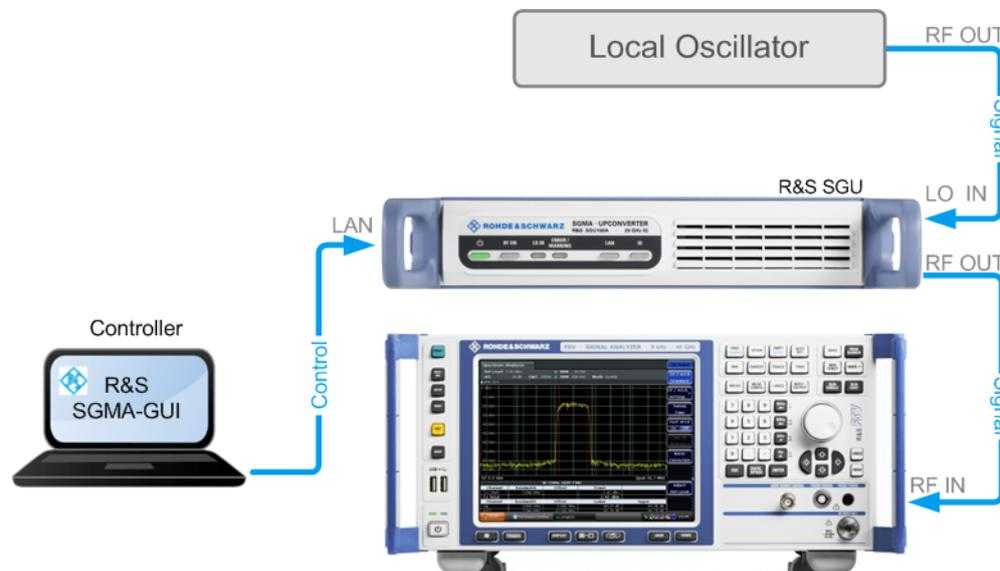

Figure 4-2: Example of a setup of the R&S SGU as an upconverter
1. Connect the test equipment as shown in Figure 4-2. Additional connections may be needed to fulfill the requirements of the connected local oscillator. To find out what connections are needed refer to its user manual.